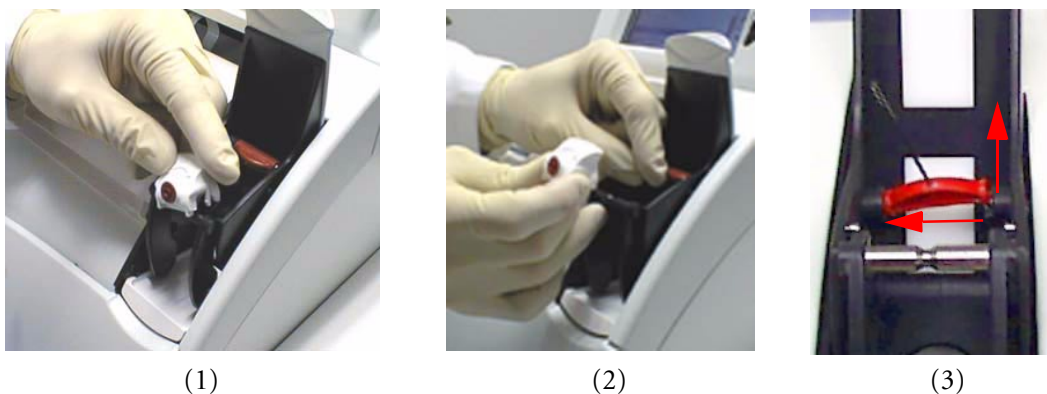

Fig. 39
- Rotate the fill port holder in the direction of the arrow (see the marking on the fill port holder). It will come out of the axis and snap out of place (see Fig. 39/1)
- Carefully remove the fill port holder from the needle (see Fig. 39/2).
- Push the needle to the left and into the sealer. Then carefully pull it upward (see Fig. 39/3).